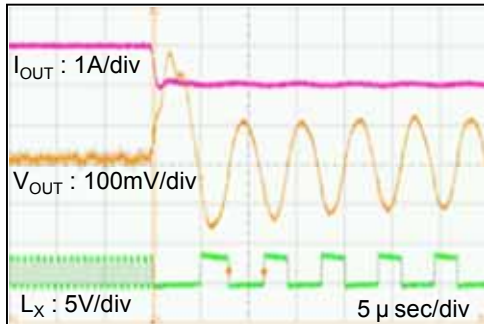
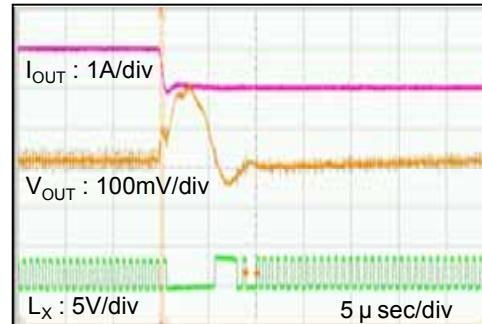
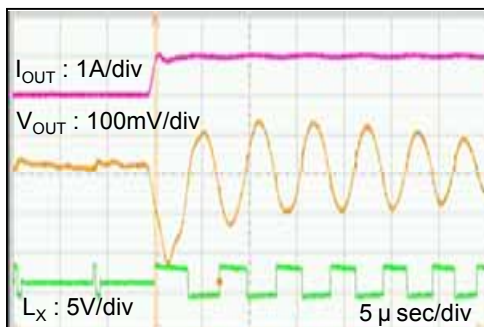
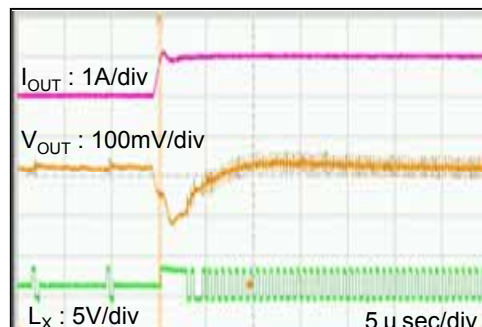

Fig.14-1 Insufficient  $C_L$  ( $T_a = -40$ ,  $C_L = 10 \mu F$ )
Fig.14-2 Sufficient  $C_L$  ( $T_a = -40$ ,  $C_L = 20 \mu F$ )
Fig.14-3 Insufficient  $C_L$  ( $T_a = -40$ ,  $C_L = 10 \mu F$ )
Fig.14-4 Sufficient  $C_L$  ( $T_a = -40$ ,  $C_L = 20 \mu F$ )
14. If the capacitance value is not sufficient by degrading  $C_L$  due to the low temp. condition and DC bias feature, 100% duty cycle might come up for the load transient condition. Add capacitance value for  $C_L$  if necessary. (Refer to Fig14-1, Fig14-2, Fig14-3, Fig.14-4)